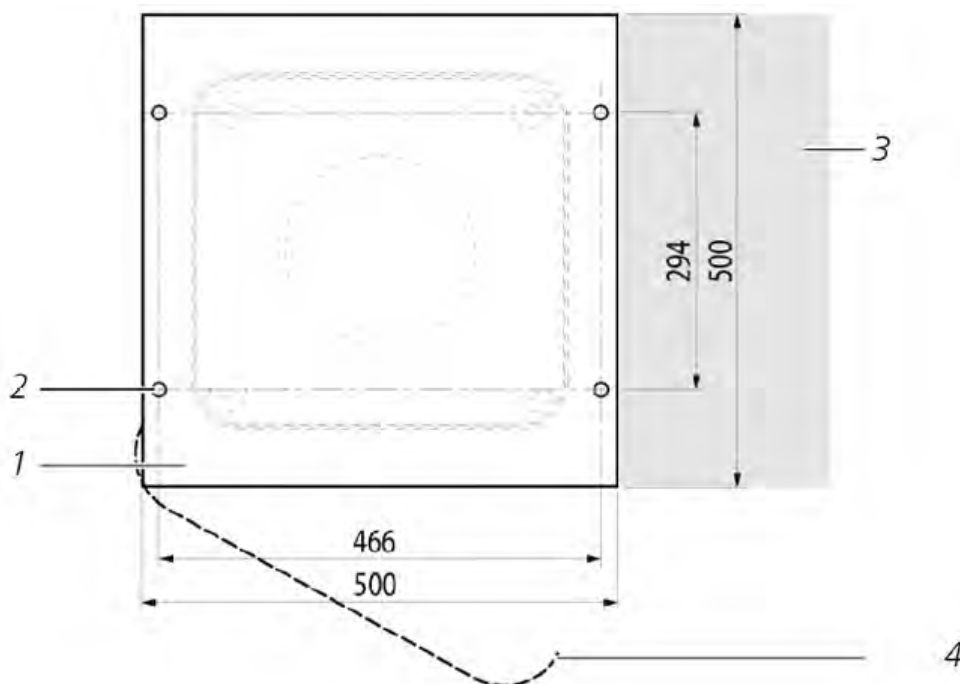

Figure 4 Drilling template.
The CHM 8k requires an installation area of 50 x 50 cm. It must be stable, firmly installed and mounted on an adequately sized concrete foundation. The inclination of the installation surface must not exceed 5 mm/m. Before installing the CHM 8k, holes must be drilled and dowels inserted in the concrete foundation (\varnothing 12 mm, 4 dowels are included in the delivery), in accordance with the drilling template (see Figure 4). It is important to pay attention to the opening direction of the exterior door to the operator's connection box.
- ⇒ Position the CHM 8k in the installation position (vertical) on the concrete foundation. It is important to pay attention to the position of the exterior door in relation to the operator's connection box (see Figure 4).